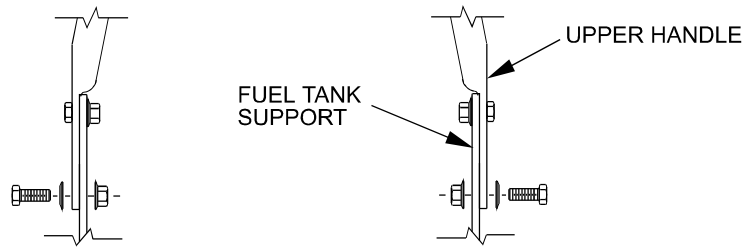

FIG. 1
- 3.8 Position the lower end of the handle assembly on the outside of the upper rear section of the fuel tank & handle support. Install four 3/8-16 x 1" bolts (with four spring disk washers against the head of each bolt) from the outside in. Secure using four 3/8" whizlock nuts on the inside of each handle support and tighten until the spring disk washers are flat (See Figure 1).